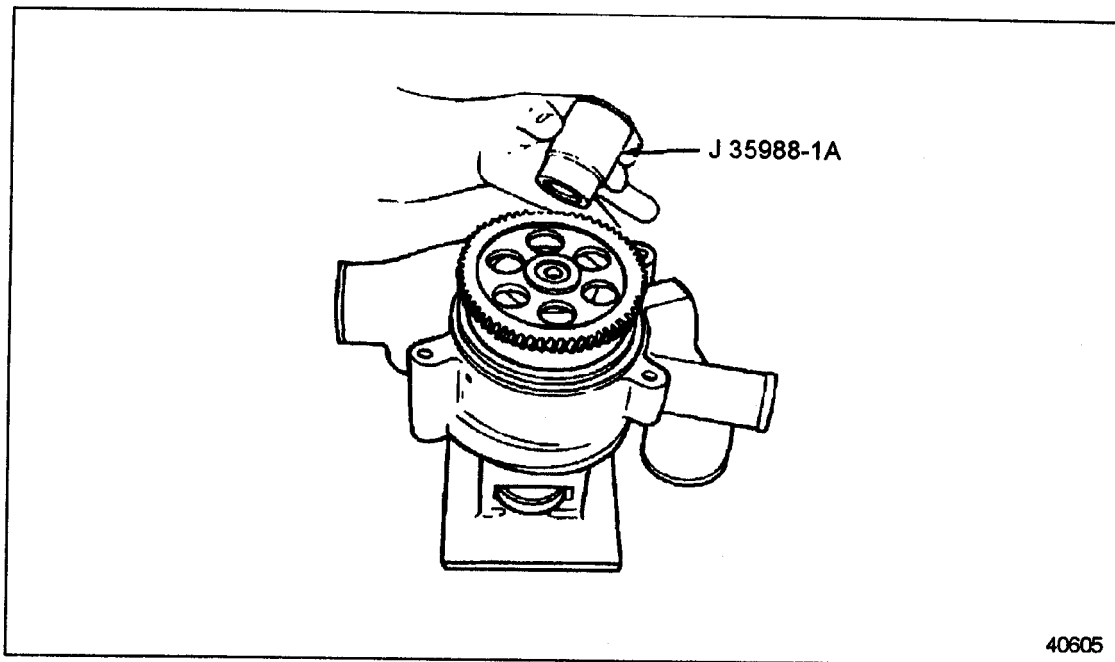

Figure 4-34 Water Pump Drive Gear Installation (GCM)
25. Using the small end of tool J 35988-1A, part of tool set J 35988-B, press the drive gear down onto the drive shaft until it touches the bearings. See Figure 4-34.